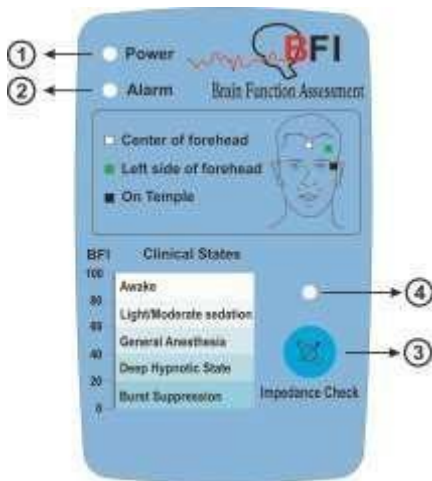

Figure 21-5 BFA module keys and indicators
Alarm Indicator: If “BFA ELECTRODE ALARM” occurs (resulting from inappropriate connection of neuro sensors), this indicator will flash with frequency of 1 Hz (Figure 21-5 **2**).
Impedance key: Impedance measurement is initiated by pressing this key (Figure 21-5 ③) and its indicator (Figure 21-5 ④) flashes on the module for one second.